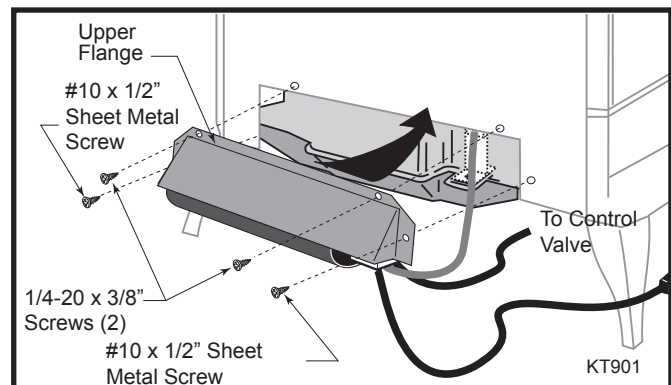

Fig. 15 Use screws removed earlier to attach fan kit to firebox.
4. Attach the fan to the firebox by reusing the two (2) pan head 1/4-20 screws on the top edge and the two (2) #10 x 1/2" sheet metal screws on the side edges. (Fig. 15)